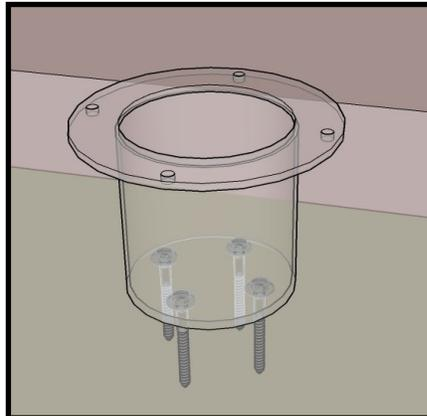

Fig 2
2. With this style of Roof Screen, the Stand-off (see exploded view on page 1) should have been shipped early and installed by the GC in accordance to the layout provided and ensure there is adequate blocking in place to secure. The stand-offs should be shimmed if necessary to keep the top flange relatively level. Their roofing contractor should have sealed the penetrations before you arrive on site (see fig 2). It is recommended that this be confirmed before you travel to the site.